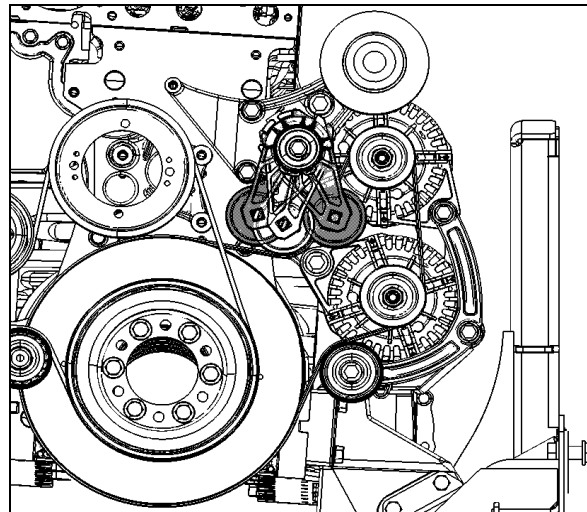
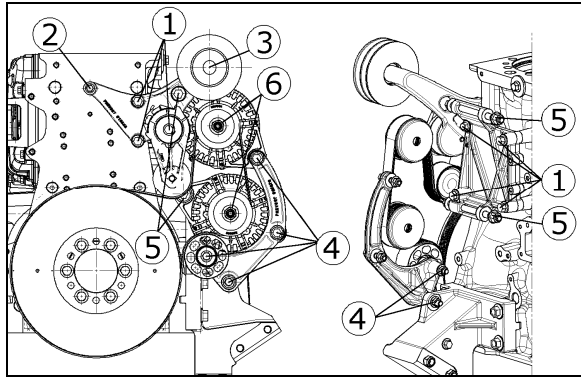

FIGURE 18: ALTERNATORS DRIVE BELT
FIGURE 19: ALTERNATORS AND ACCESSORIES MOUNTING TORQUES (H3 COACH SHOWN)
If the alternators needed to be removed, reinstall as follows. Refer to figure 18 for installation and to figure 19 for tightening specifications:
1. If necessary, tighten 6 screws fixing alternators support assembly onto engine (item 1, fig.19). Torque tighten to 43 lb-ft, use some Loctite 243 blue (680038) onto the threads. Also tighten the screw fixing belt tensioner onto alternators support assembly (item 1, fig.19). Torque tighten to 43 lb-ft, use some Loctite 243 blue (680038) onto the threads.
2. If removed, reinstall screw fixing alternators support assembly onto engine (item 2, fig.19). Torque tighten to 22 lb-ft, use some Loctite 243 blue (680038) onto the threads.
3. Mount the A/C compressor idler pulley onto alternators support assembly (item 3, fig.19). Torque tighten to 150 lb-ft, use some Loctite 243 blue (680038) onto the threads.
4. Install alternators arched support loosely onto engine. If removed, install alternators idler pulley (item 4, fig.19) onto alternators arched support, torque tighten to 43 lb-ft.
5. Fix lower and upper alternators loosely to alternators support assembly (bolts 5, fig.19). Also, mount lower and upper alternator loosely onto alternators arched support. If removed install stone guard below lower alternator.
7. Mount pulleys (6, fig.19) onto alternators. Torque tighten to 58 lb-ft.
8. Install alternators belt (fig.18).
1. Insert a 3/4" socket drive into the automatic belt tensioner opening (fig. 18).